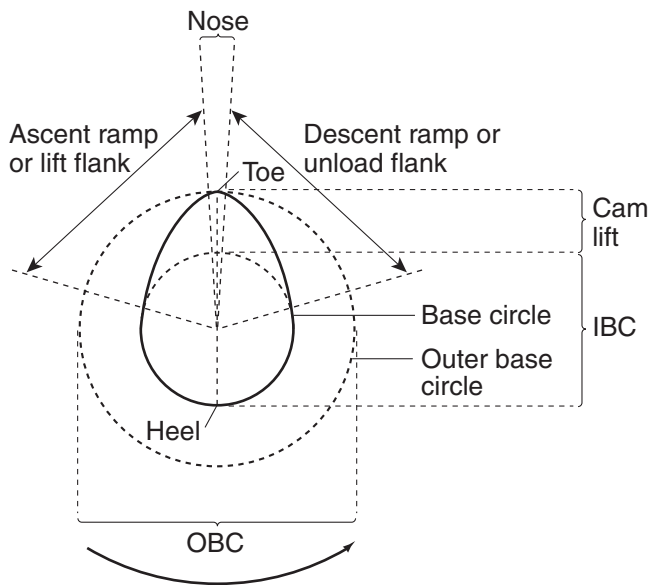

Figure 5-4 Camshaft terminology.
it actuates will be loaded for most of the cycle. What a cam profile is required to do, determines whether it uses a mostly IBC or mostly OBC design. In some cases, you will come across a design that is a mix of both. **Figure 5-4** explains some cam terminology as it applies to a cam whose profile is mostly IBC.
2. Referencing **Figure 5-4**, mike the cam profile heel-to-toe dimension and check to OEM specifications. Mike the base circle dimension and check to specifications. Subtract the base circle dimension from the heel-to-toe dimension to calculate the cam lift dimension. Check to specifications. Cam lift can also be measured using a dial indicator with the camshaft mounted in V-blocks. Zero the dial indicator on the cam base circle and rotate the camshaft to record the lift. Ensure that a dial indicator with sufficient total travel to measure the specified lift is used. When checking the cam lift dimension with the camshaft in-engine using a dial indicator, the measurement may not exactly match the OEM spec, even when the cam profile is in good condition. This variance is usually due to the lie of the camshaft in the support journals.